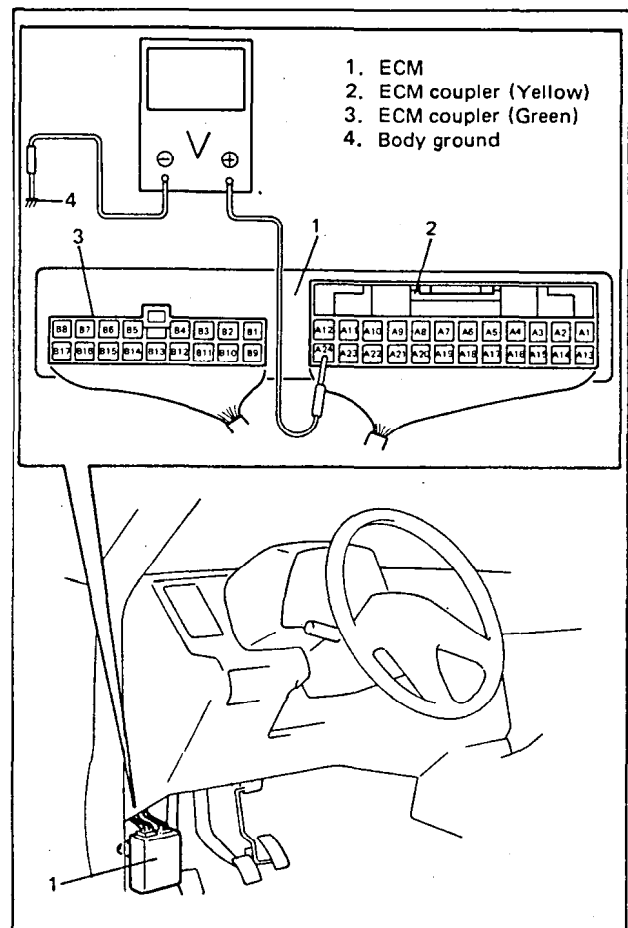

Fig. 6E-35 Checking Voltage and Terminal Position
- When checking voltage at each terminal of the coupler which is connected to ECM, be sure to do as shown in Fig. 6E-35. Any other way is prohibited even by accident.
- For ECM coupler terminal positions (A1, A2 . . . to A24 and B1, B2 . . . to B17), refer to Fig. 6E-35.